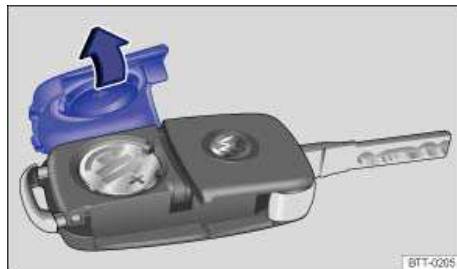

Fig. 30 Remote control vehicle key: Open battery compartment cover.
The battery is on the back of the remote control vehicle key under a cover ⇒ fig. 30.
- Position the cover as shown ⇒ fig. 30 and press it down (opposite to direction of the arrow) until you hear it click into place.